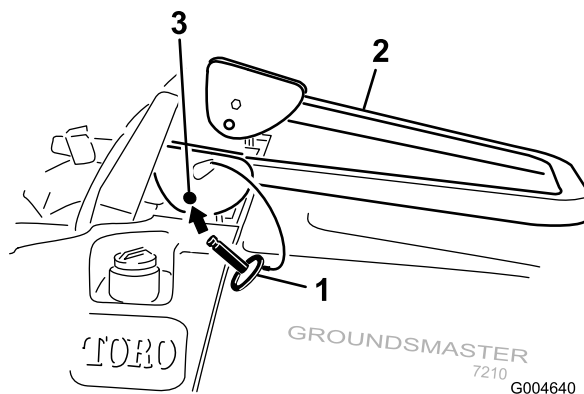

Figure 12
2. Lower the roll bar to the down position (Figure 12).